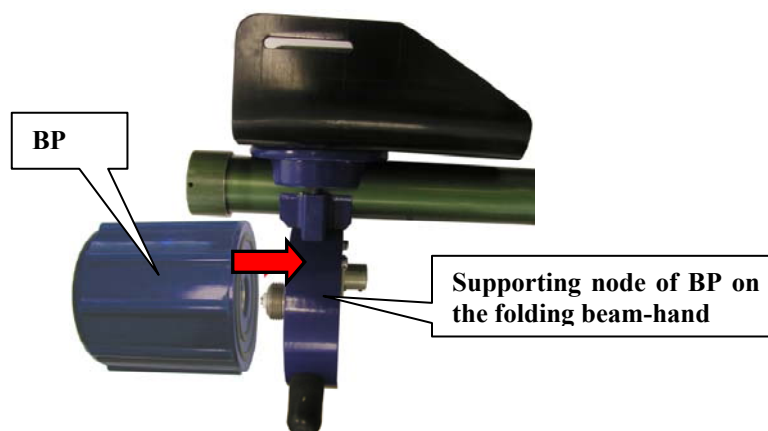

Figure 3.1.2. BAPP Supporting to the folding handle rod.
4. Rotating clock-wise twist completely charged off-line power supply (BP) unit on the folding handle rod (figure 3.1.2);